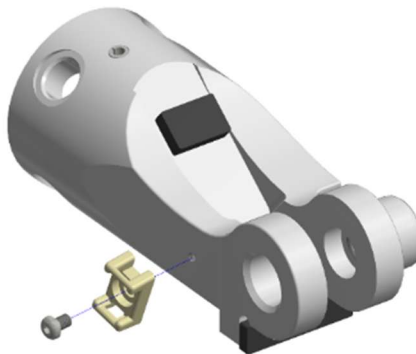

Figure 11-20. Remove the Cable Tie Mount (6002036)
11.2.16 Remove the Cable Tie Mount (6002036) from the Proximal Lower Arm Tube (474-6501-1,2) by removing the one M2.5 X 0.45 X 4 LG. BHCS (Figure 11-20).